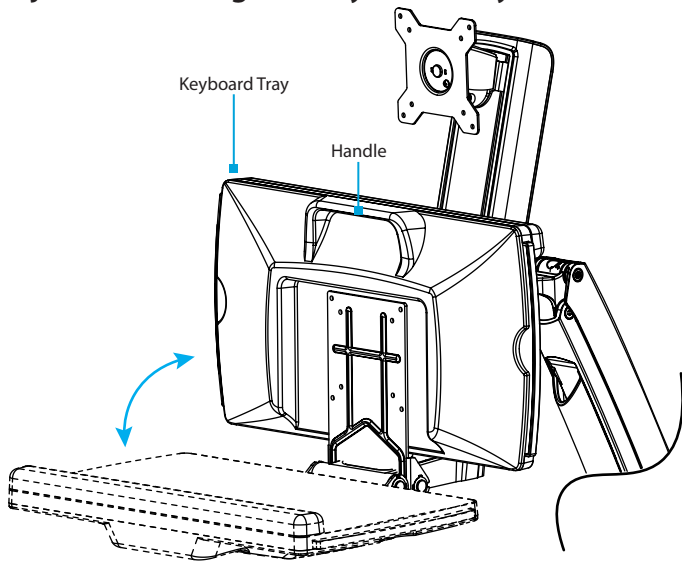

Figure 16
1. Grab the **Keyboard Tray** by the sides or use the **Handle**. **Pull Up** or **Push Down** on the **Keyboard Tray** to adjust the angle between 0° to 90° . (Figure 16)